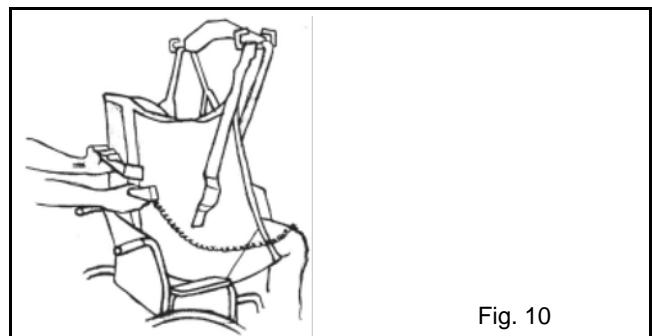

Fig. 10
- 3) Before the resident/patient touches chair seat, and while resident/patient is still moving downward, grasp the sling handle at the mid-line of the resident/patient's back (if not accessible, use handles on the sides of sling). Keep elbow at 90° and grip the centre positioning handle with palm facing up while lowering, and guide the resident/patient into a proper seated position. This manoeuvre when done correctly will not cause shoulder strain (see Fig. 10). The downward motion of the sling will cause the resident/patient to be lowered back into the chair, correctly sitting at a full 90 degrees (instead of sacral sitting) or as close to 90 degrees as physically possible.